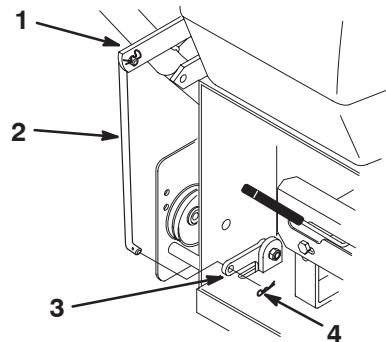

Figure 10
1. Rotate the blade control (PTO) lever vertically away from the left handle so that the blade control (PTO) rod drops down (Fig. 10).
2. Remove the hairpin cotter from the bottom end of the blade control (PTO) rod (Fig. 10).
3. Secure the blade control (PTO) rod through the hole in the bell crank with the hairpin coppers (Fig. 10).